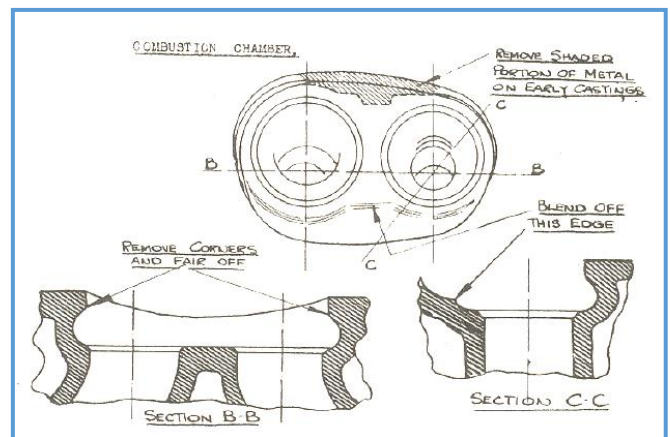

Figure 3. Re-profiling combustion chambers.
- c) **Combustion Chamber** – All sharp edges should be removed. The undercuts round each valve should be blended off to ensure a smooth gas flow and to assist turbulence (Fig. 3).